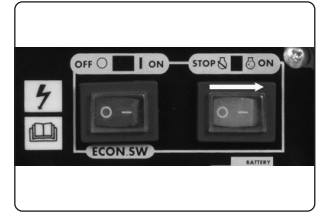

fig.8
- 6.3.4. Turn the engine switch (Red) to “ON” fig.8.